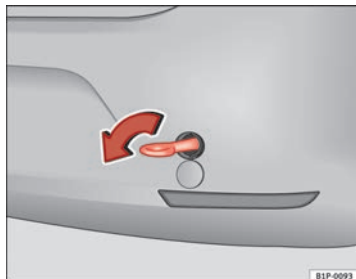

Fig. 183 Fitting the towing eye to the rear of the vehicle
- Screw the towing eye as shown by the arrow *anti-clockwise* to the limit position in the front ⇒ fig. 182 or rear ⇒ fig. 183 threaded hole. ■